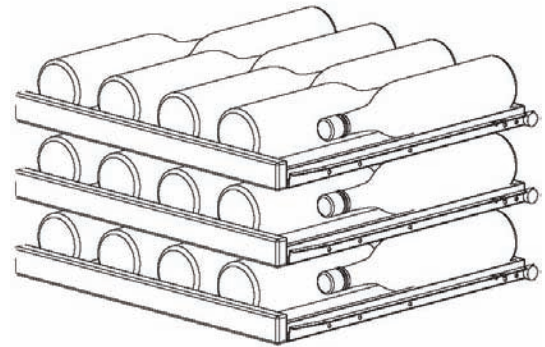

Figure 4
The five (5) upper shelves each hold eight (8) bottles in a vertical fashion. See Figures 4 and 5 for typical wine bottle spacing. The bottom shelf holds four (4) bottles in a horizontal fashion.